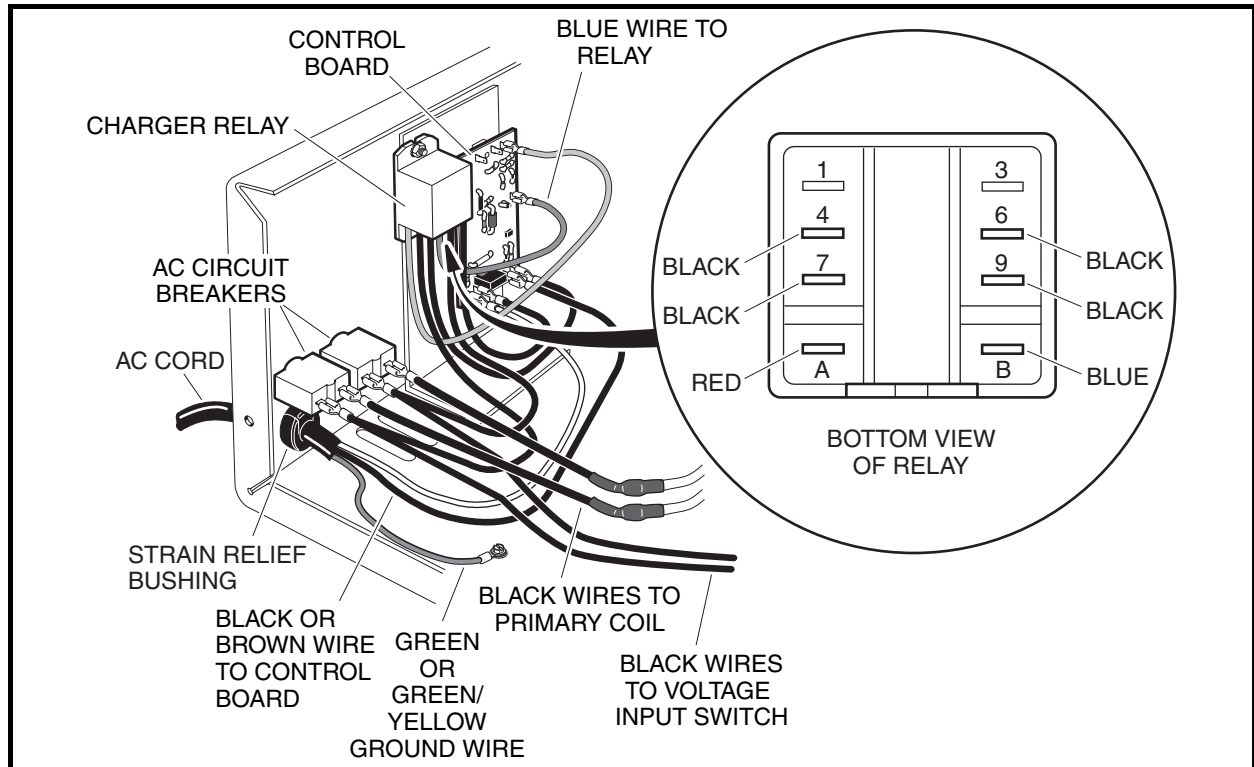

Figure 6-20 Charger Relay
4. Disconnect the black primary coil leads from the AC circuit breakers and the voltage selector switch (**Figure 6-20, Page 6-29 and Figure 6-22, Page 6-33**).
3. Disconnect all wires from the relay (**Figure 6-20, Page 6-29**).
Install in reverse order of removal. Connect wires as shown (**Figure 6-20, Page 6-29**). Tighten nuts securing relay to mounting bracket to 18 in-lb (2.0 N·m).
3. Disconnect the two black wires attached to top circuit breaker (**Figure 6-20, Page 6-29**).
3. Disconnect the AC cord black wire from the AC circuit breaker (**Figure 6-20, Page 6-29**).
5. Disconnect the AC cord green wire from the charger base (**Figure 6-20, Page 6-29**).
1. Insert the black, white, and green leads of the new AC cord into the charger through the hole in the charger face (**Figure 6-20, Page 6-29**).